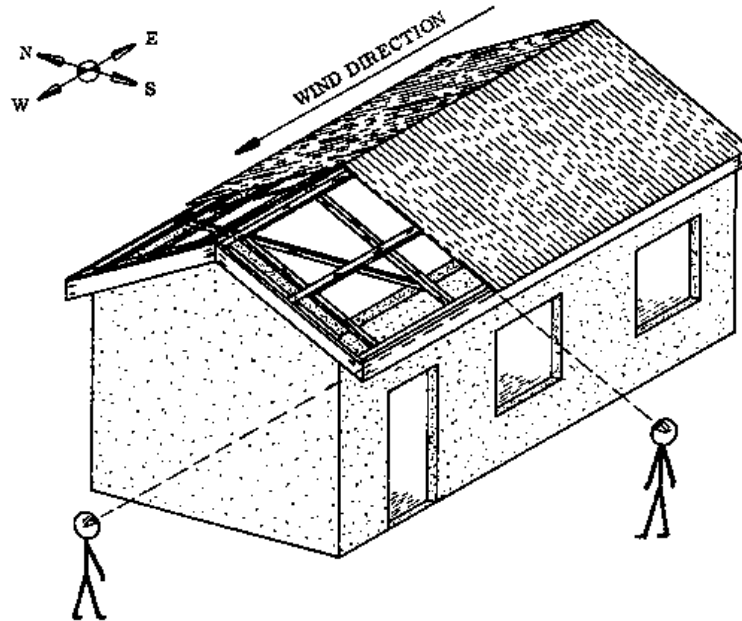

Fig. 1
The helpers can also check from both sides of the roof to see if the corrugations match at the ridge line (Fig. 1).
- SEQUENCE OF OPERATIONS: In order to join the overlaps correctly, follow this sequence, starting from the end of the roof which is in the direction where the strongest winds are coming from (here it is the east) (Fig. 1).